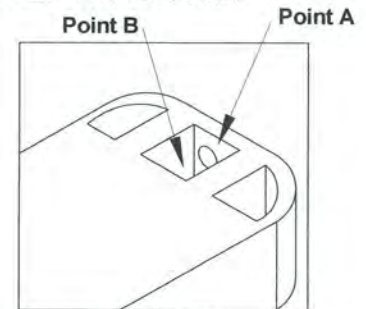

Figure 1
Attach the brackets to their desired location using the (4) longer screws. Drill out the recessed hole Point A on each end of the LED Micro-Lites. (**NOTE:** The recessed holes can only be seen from the bottom of the LEDs.) See Figure 1. Then place the Micro-Lites into the brackets and attach them using the shorter screws and locknuts. The (2) gaskets will not be needed.
Drill out the recessed hole Point B on each end of the LED Micro-Lites. (**NOTE:** The recessed holes can only be seen from the bottom of the LEDs.) See Figure 1. Drill the (4) holes on the mounting surface for the (2) LED Micro-Lites using an LED Micro-Lite as a guide. Place the (2) gaskets under the LED Micro-Lites. Attach the LED Micro-Lites using the (4) longer screws provided. The (2) brackets, (4) shorter screws and (4) locknuts will not be needed.
2. Mount the 11.1005SF or 11.1005 LED Flasher using the (2) provided screws.
3. Mount the 11.1002 LED Double Switch using the (2) provided screws.